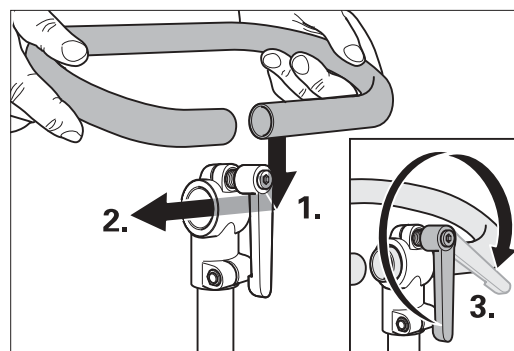

Fig. 10: Inserting the handlebar into the clamping piece of the extension and tightening the clamping lever.
- 2 Insert the long straight end of the handlebar into the clamping piece and tighten the clamping lever firmly. (Fig. 10).